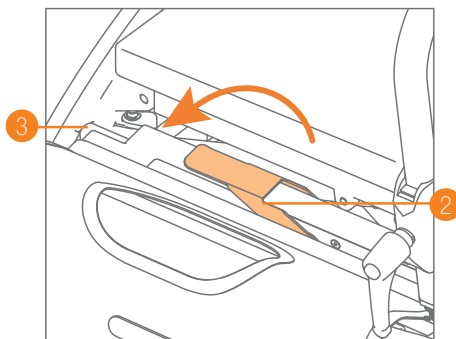

Figure 39: Locking the wheelchair package.
- d. Push the red handle back down without force to lock the wheelchair package. The locking bolts will extend so that the package is properly secured (**Figure 39**). You can now walk with the Rollz Motion Electric as a walker, carrying along the wheelchair package.